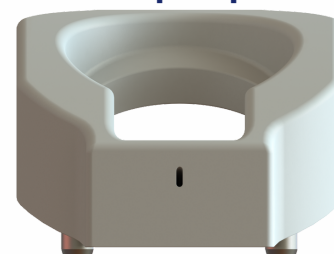

Fig. 2
4. Carefully PLACE the top cap onto the base of the device, ensuring the cornea is firmly held in place, **Fig. 2**. The stabilizing arms will hold the cornea 1 - 2 mm from the edge of the trabecular meshwork.